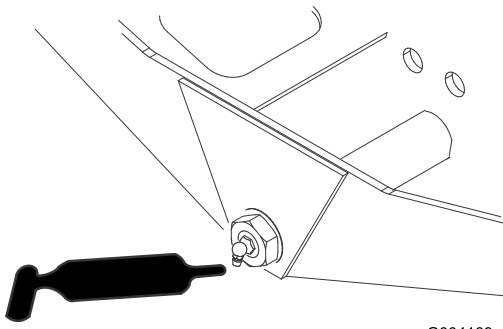

Figure 74
- Axle-steering pivot (1) (Figure 74)